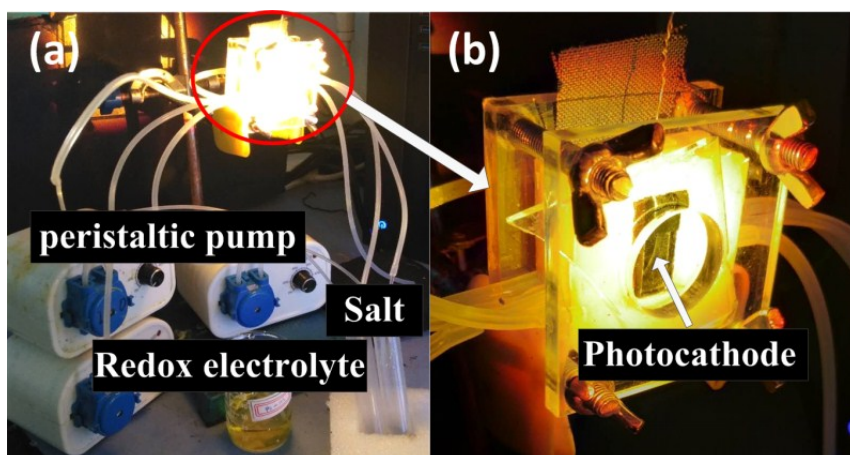

Figure S2: Photograph of photocathode electrochemical desalination device set-up with illumination.
Figure S2 demonstrates the photograph of photocathode photoelectrochemical desalination device set-up with illumination. The two salt seeds and one electrolyte solution are circulative driven by the peristaltic pumps, individually. Figure S2b is an enlarged view of the designed desalination device. It consists of four silicon plates: two as the redox streams (RS) and the other two as salt streams (SS). Two acrylic sheets are used to fix the desalination device. CdS/CZTS is served as photocathode (PC) to absorb light to produce photo-generated electron and carbon cloth coated with Pt nanoparticles is used as the counter electrode (CE) to form a complete circuit. The configuration sequence is same as Figure 2a, as shown below: